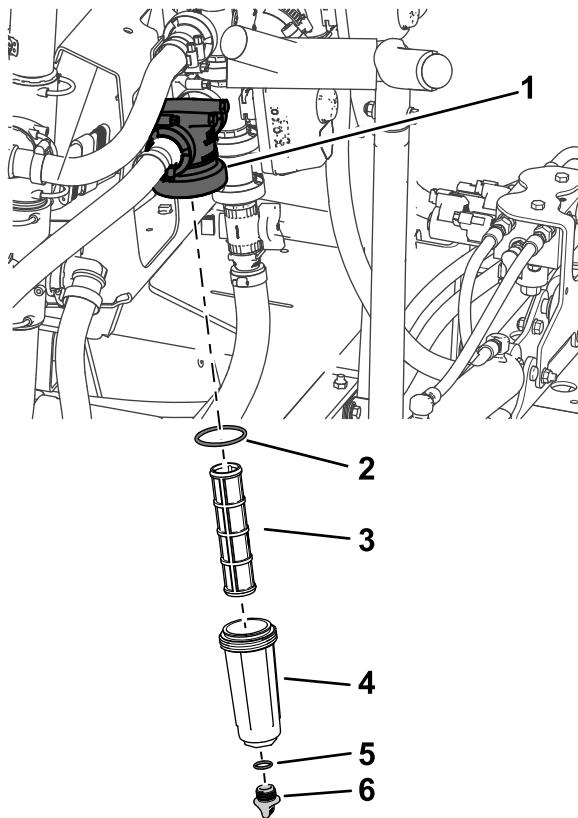

Figure 90
2. Align a drain pan under the pressure filter (Figure 90).
3. Rotate the drain cap counterclockwise and remove it from the bowl of the pressure filter (Figure 90).
4. Rotate the bowl counterclockwise and remove the filter head (Figure 90).
5. Remove the pressure filter element (Figure 90).
7. Check the gasket for the drain plug (located inside the bowl) and the gasket for bowl (located inside the filter head) for damage and wear (Figure 90).
8. Install the pressure filter element into the filter head (Figure 90).
9. Install the bowl onto the filter head, and tighten by hand (Figure 90).
10. Assemble the drain cap onto the fitting at the bottom of the bowl, and tighten the cap by hand (Figure 90).